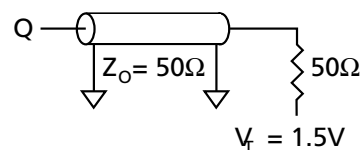

Figure 1
1. Test conditions as specified with the output loading shown in Figure 1 unless otherwise noted.
Output load	See Figures 1 and 2